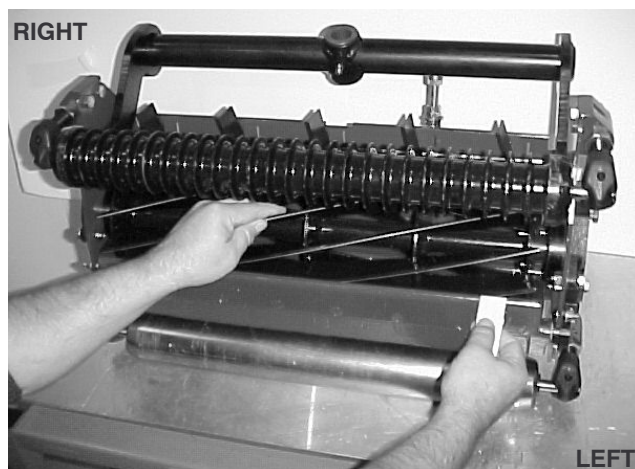

Figure 4
1. Rotate cutting unit backward to gain access to reel and bedknife (Fig. 4).
3. Insert a 1" (25 mm) wide piece of newspaper perpendicular to the bedknife, and then rotate the reel slowly in the mowing direction to see if the reel cuts the paper - do this on both ends of the bedknife (Fig. 4). If the paper does not cut cleanly, tighten the bedknife adjusting knob a maximum of 2 clicks, and check to see if paper is cut cleanly.